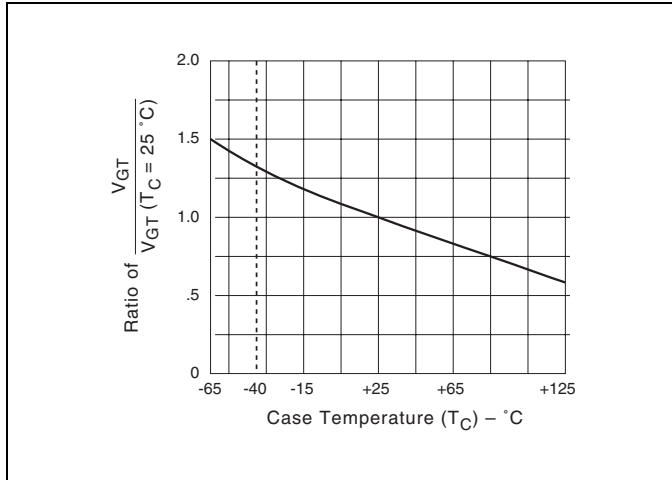

Figure E4.7 Normalized DC Gate Trigger Voltage for all Quadrants versus Case Temperature
- See Figure E4.7 for V_{GT} versus T_C.